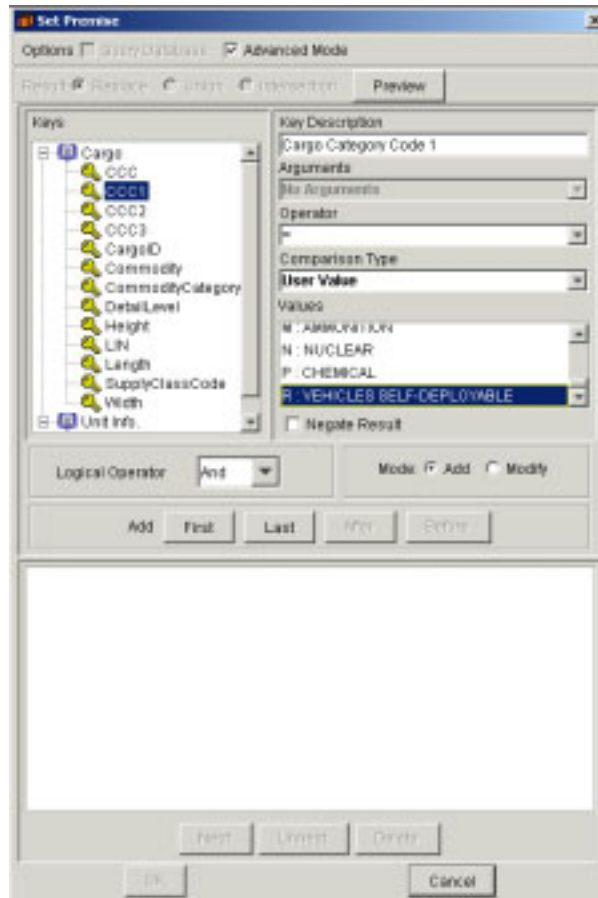

Figure 5.120 Expanded Set Premise Window (Advanced Mode)
22. On the Set Premise window, click the Advanced Mode check box. The Set Premise window expands (Figure 5.120).